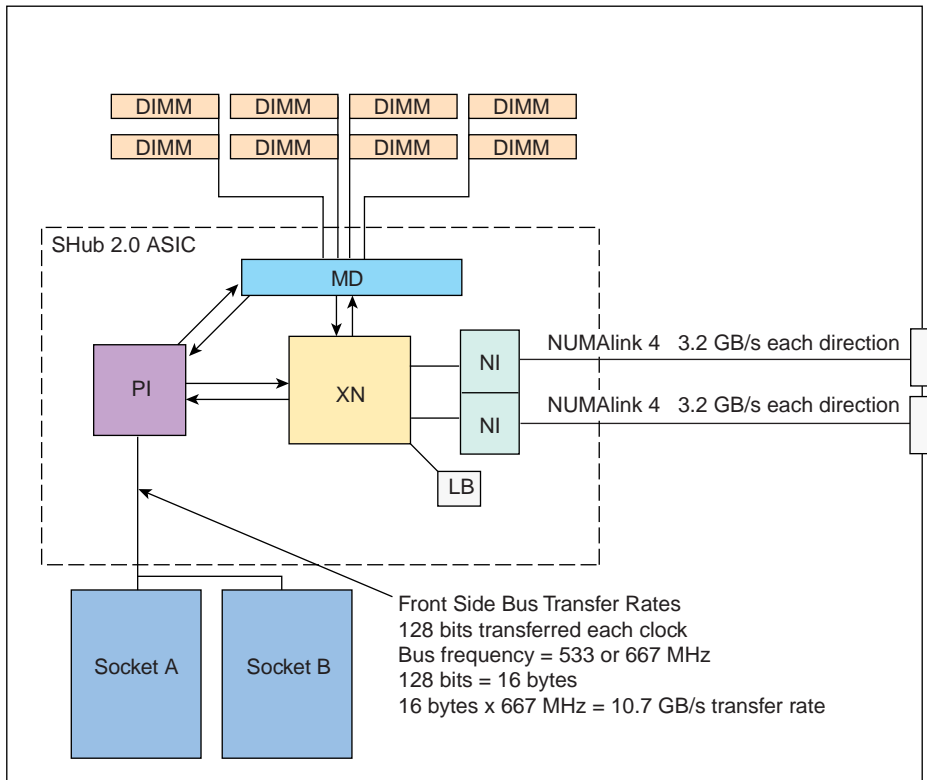

Figure 3-5 Blade Node Local Compute/Memory Block Diagram
- If a processor accesses memory that is connected to the same SHub ASIC on a compute node blade, the memory is referred to as the node’s *local memory*. Figure 3-5 on page 56 shows a conceptual block diagram of the blade’s memory, compute and I/O pathways.